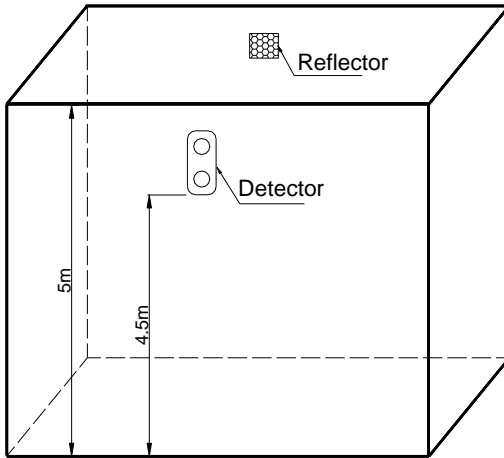

Fig.4
- a) As the space height is not over 5m, the detector and reflector/s should be mounted on the walls which are opposite, having about 0.5m from the ceiling. Refer to Fig. 4.